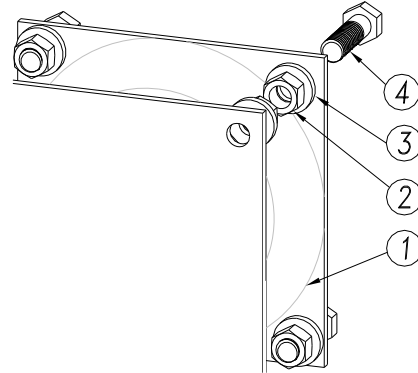

Fig. 9-3 Flat Washer (3) must be placed against "rubber side" (1) of Spring Mount
Flat washer must be installed on the "Rubber Side" of mount. Refer to Figure 9-3.
Step 1. Tighten the first bolt to 1/3 of its final torque in Table 9.2. Follow a crisscross pattern (Ref Fig. 9-3) and tighten remaining bolts to 1/3 of final torque.